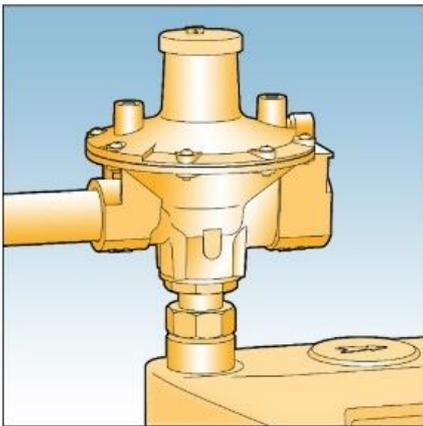

Fig. 2
7. Mount regulator to meter inlet and connect pipework to regulator inlet. See Fig. 2.